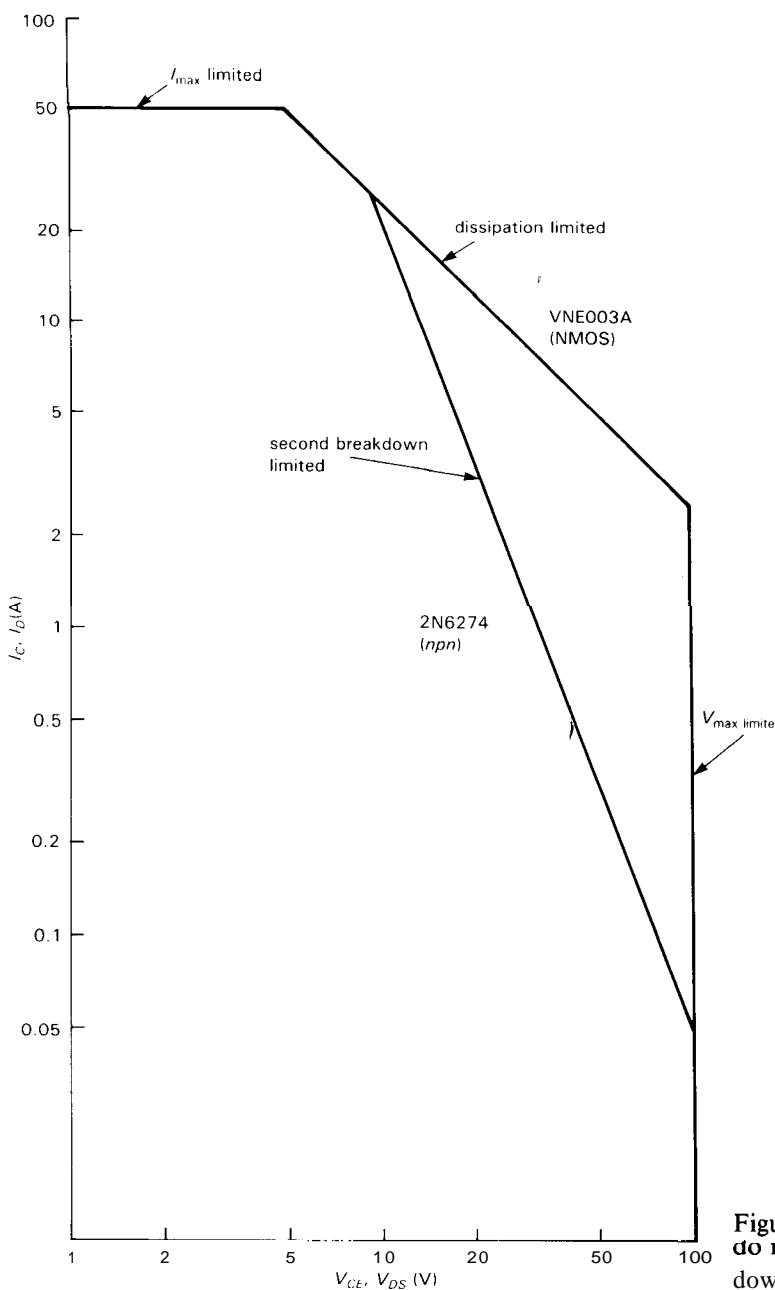

Figure 3.66. Power MOSFETs do not suffer from second breakdown.
these junction hot spots entirely. MOSFETs have no second breakdown, and their safe operating area (SOA) is limited only by power dissipation (see Fig. 3.66, where we've compared the SOAs of an *n*p*n* and an NMOS power transistor of the same I_{max} , V_{max} , and P_{diss}). For the same reason, MOSFET power amplifiers don't have the nasty runaway tendencies that we've all grown to love in bipolar transistors (see Section 2.15), and as an added bonus, power MOSFETs can be paralleled without the current-equalizing "emitter-ballasting" resistors that are necessary with bipolar transistors (see Section 6.07).
- **MOSFETs versus BJTs as high-current switches.** Power MOSFETs are attractive alternatives to conventional power BJTs most of the time. They currently cost somewhat more, for the same capability; but they're simpler to drive, and they don't suffer from second breakdown and consequently reduced safe-operating-area (SOA) constraints (Fig. 3.66).